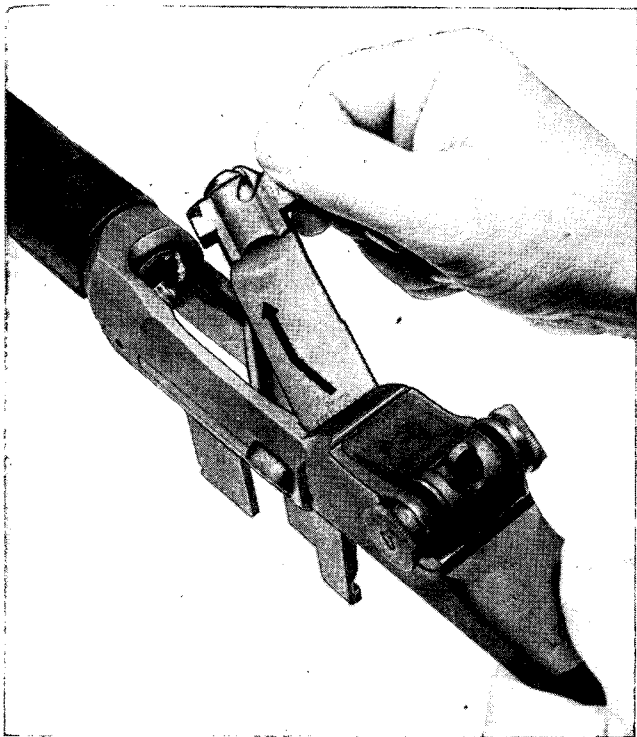

Figure 13. Removing the bolt.
f. Grasp the bolt by the operating lug and, while sliding it from rear to front, lift it upward and outward to the right front with a slight rotating motion (fig. 13).